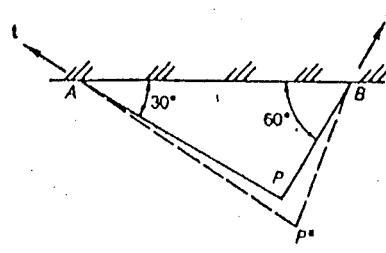

Fig. P2.34
2.34. A thin plate is in the form of a 30° - 60° - 90° triangle and is supported along its hypotenuse as shown in Fig. P2.34. It is subjected to the uniform strains $\epsilon_x = .004$, $\epsilon_t = .003$. Compute the approximate value of $\gamma_{uu}(P)$.